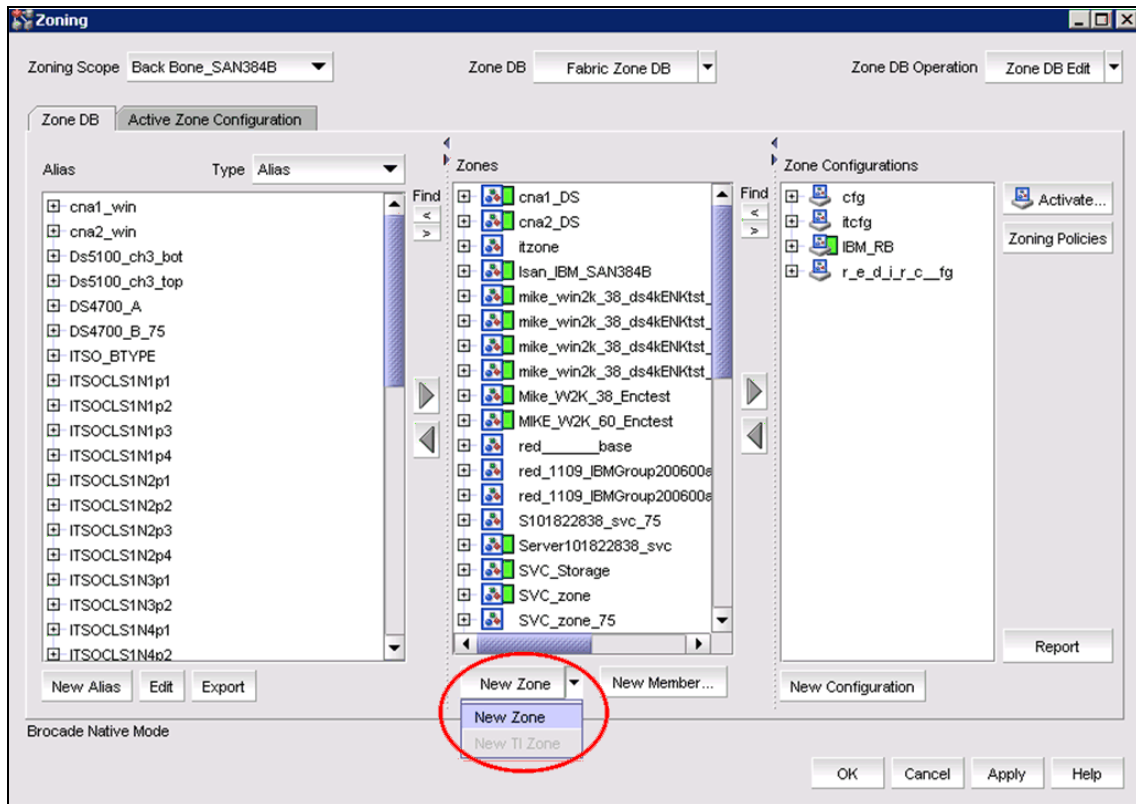

Figure 12-13 New Zone
3. Go to the Zone tab, and click **New Zone**, as shown in Figure 12-13.